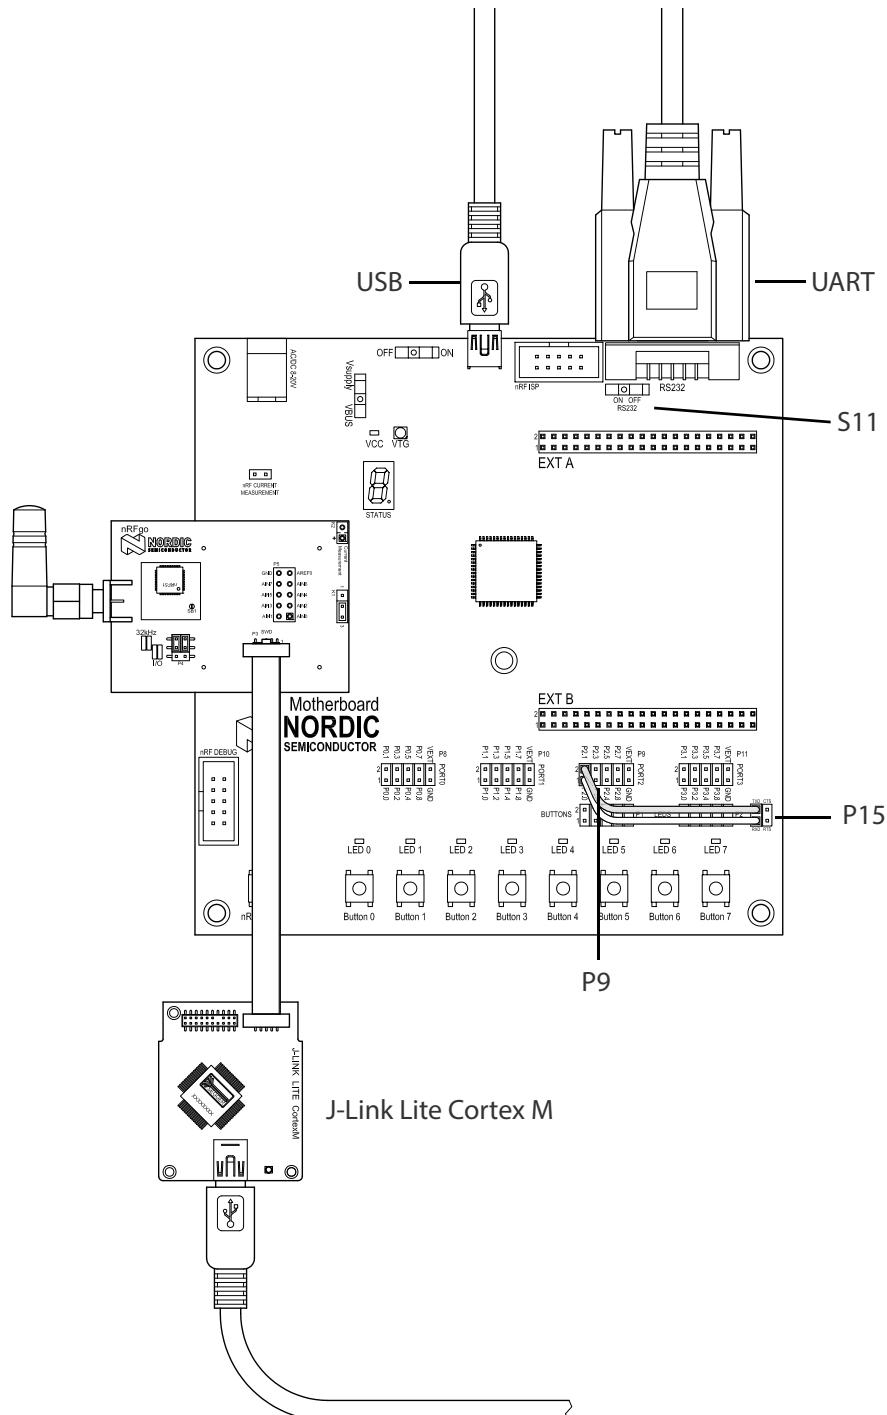

Figure 35 UART setup for DTM
2. Connect a double cable, or two single cables, between **P15** and **P9** on the Motherboard as shown in *Figure 35*. The UART data pins RXD and TXD will be present on the I/O port pins P2.0 and P2.1 as shown in *Table 8* on page 51. Make sure the RXD/TXD labels match for each wire. This matches the default setting in the SDK project ble_app_dtm.